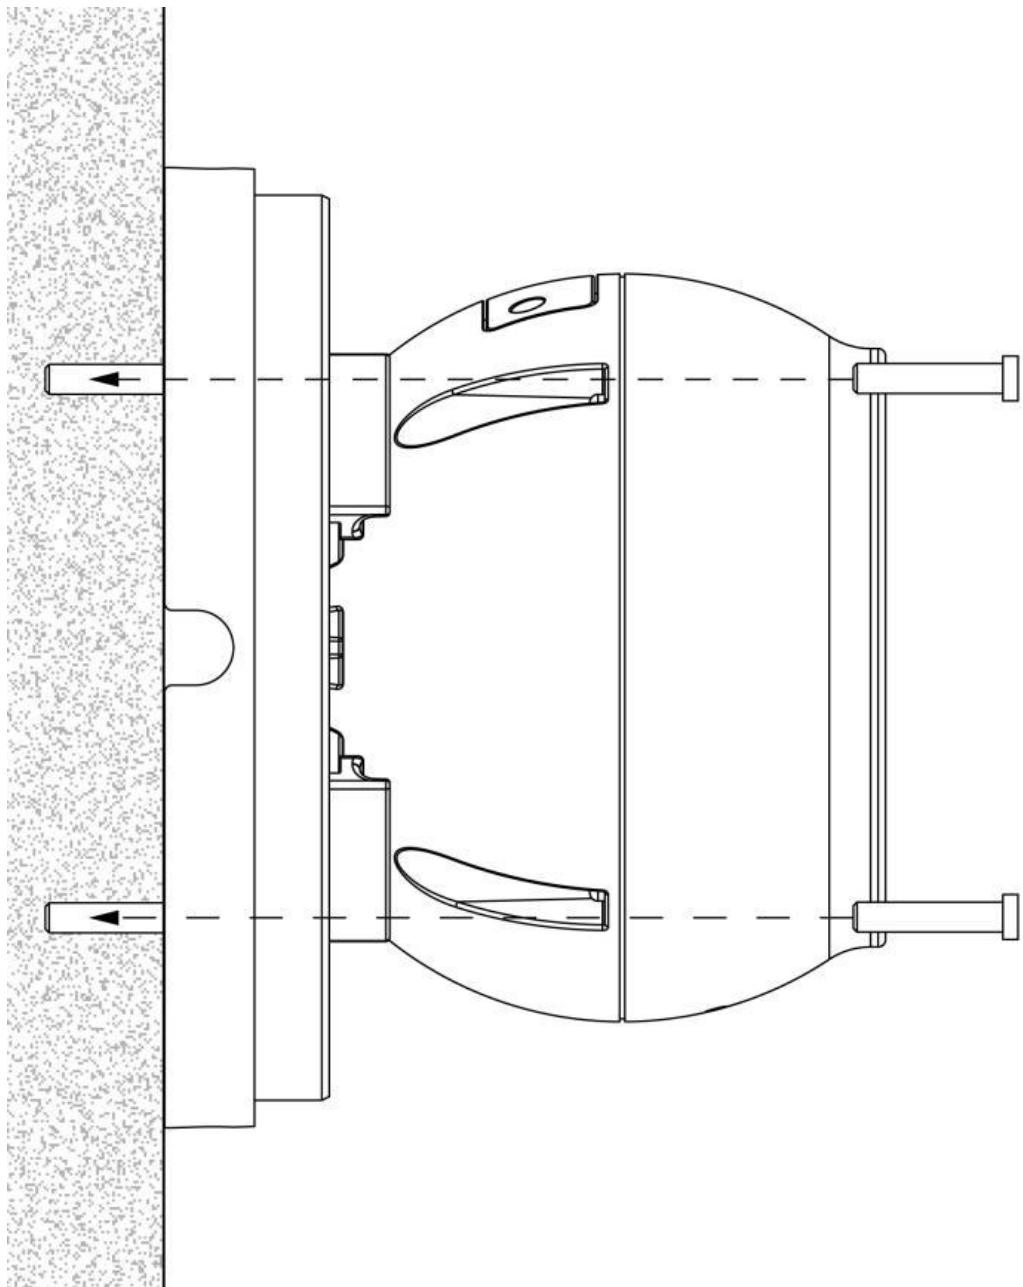
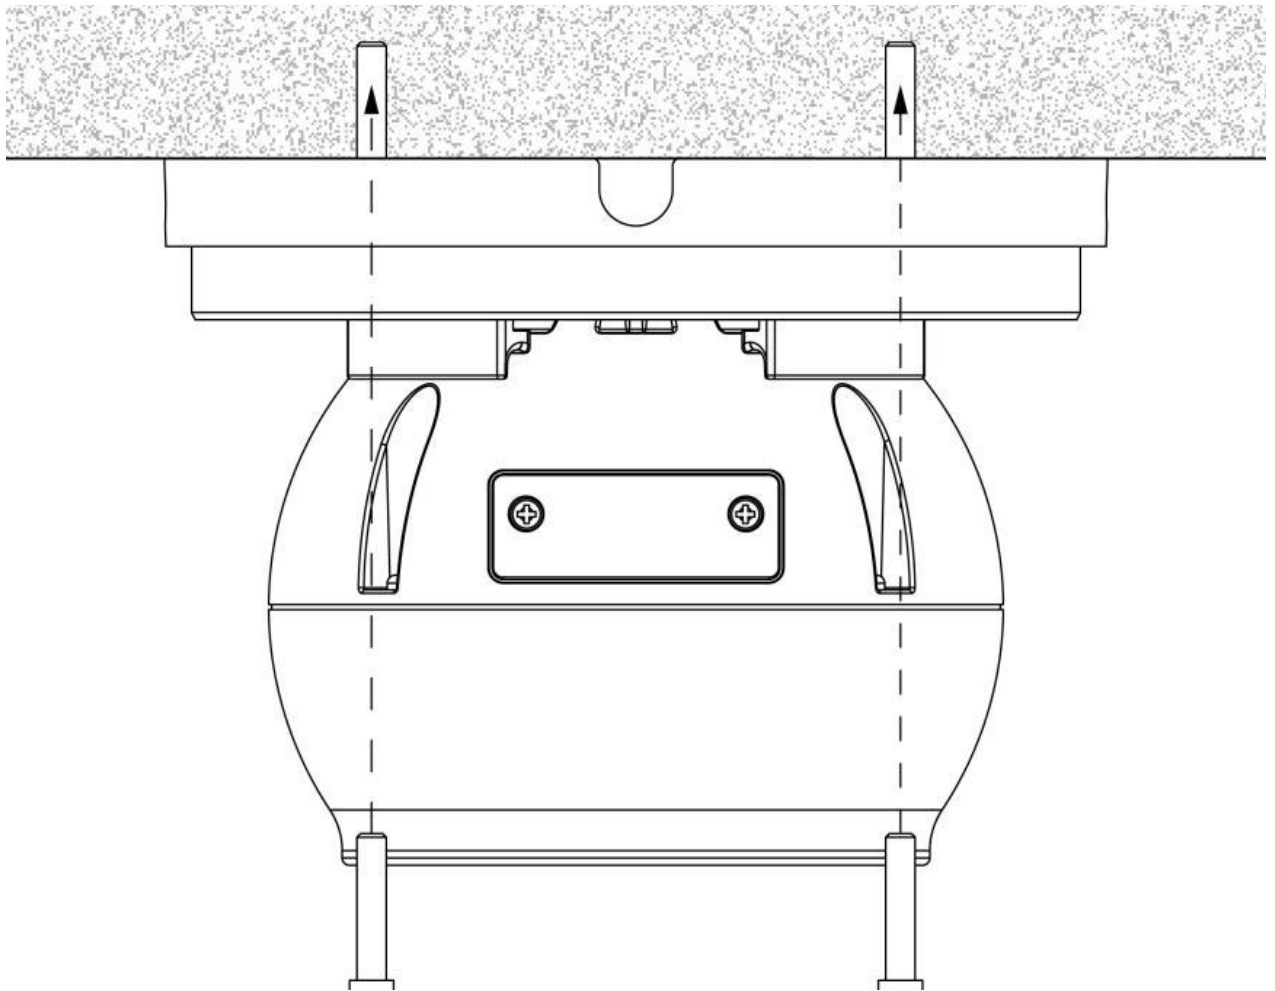

Figure2.6 Wall Mount
Figure 2.7 Ceiling Mount
2. The wall mount is shown in Figure 2.6, and the ceiling mount is shown in Figure 2.7.